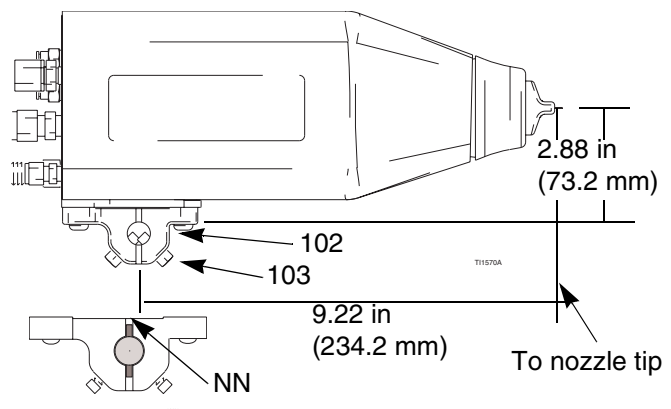

Fig. 4: Mounting Bracket
1. Loosen the mounting bracket's two set screws (103) and slide the bracket (102) onto a 1/2 in. (13 mm) mounting rod. See FIGURE 4.
For added positioning reliability, insert a 1/8 in. (3 mm) locating pin into the slot (NN) in the bracket and through a hole in the rod. See the detail in FIGURE 4.